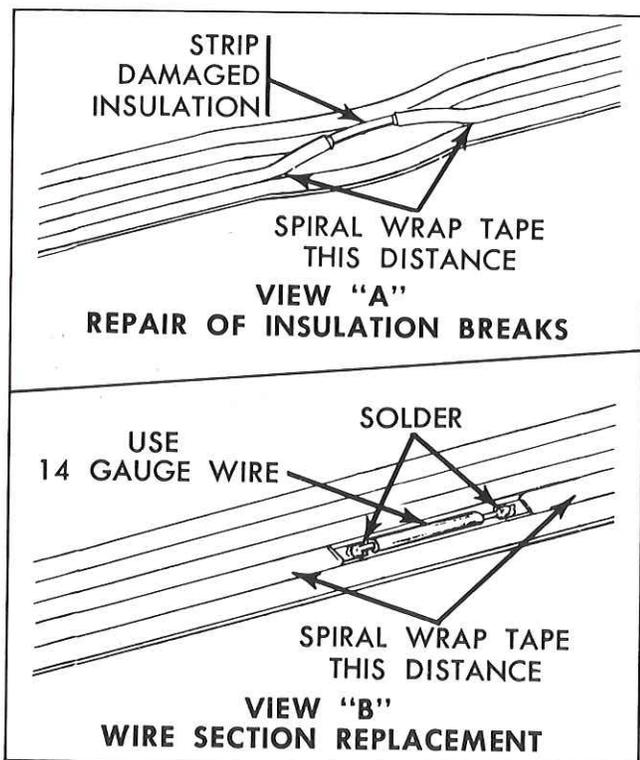

Fig. 10—Body Flat Harness Repair
3. Strip back damaged insulation from wires (View A, Figure 10), then use electrician's tape to spiral wrap each damaged lead separately. Extend wrap at least 1½ inches beyond end of damage area.
6. Tin and solder the round wires to the flat wires, (View B, Figure 10).